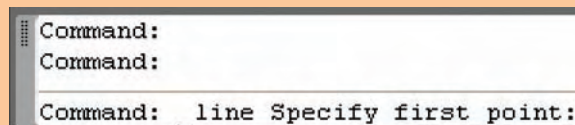

Fig. 2.3 The prompt appearing at the command line in the Command palette when Line is 'called'
First example – **Line** tool (Fig. 2.3)
- (b) The prompt **Command: _line Specify first point:** which appears in the command window at the command line (Fig. 2.3).